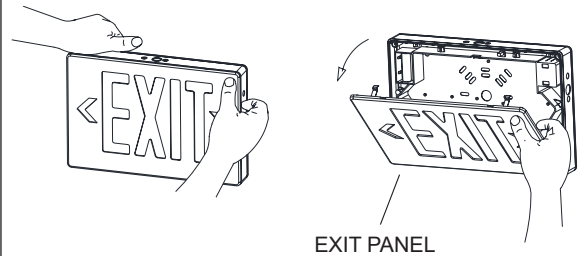

Fig. 5
2. Remove the proper directional chevron(s) from the EXIT panel(s) carefully, if necessary (Fig. 5)
Chevron Knockout (Fig. 5)